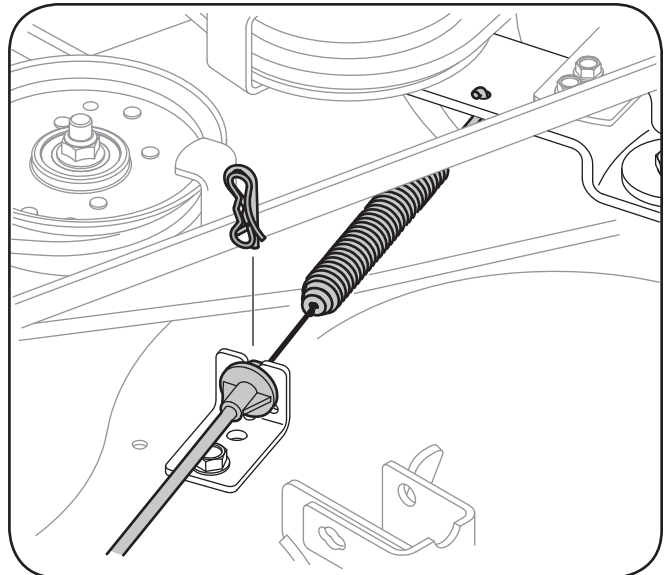

Figure 7-5
11. Carefully remove the PTO cable from the rear of the cutting deck by removing the hair pin clip which secures it. Remove the spring from the deck idler bracket. See Fig. 7-5 on the next page.